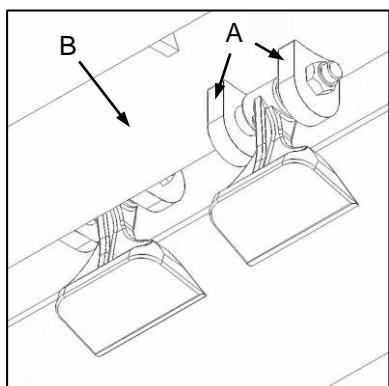

Fig. 7
- ✓ Check blade mounting lugs (Fig. 7-A) for signs of wear, distortion, elongation or fractures. Severe wear or damage to the blade mountings may necessitate replacement of the complete rotor (Fig. 7-B).
- ✓ Gaan lemmonteeringskloue (Fig. 7-A) na vir tekens van slytasie, verwrinking, rekkig of krase. Ernstige slytasie of beskadiging van die lemmonteringstukke mag vervanging van die hele rotor noodsaak (Fig. 7-B).